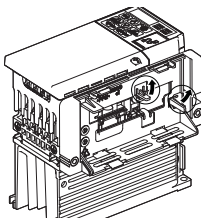

Figure 23 Removing the Mounting Attachment
3. Remove the mounting attachment by pressing two tabs in the direction of arrows as shown in *Figure 23*.